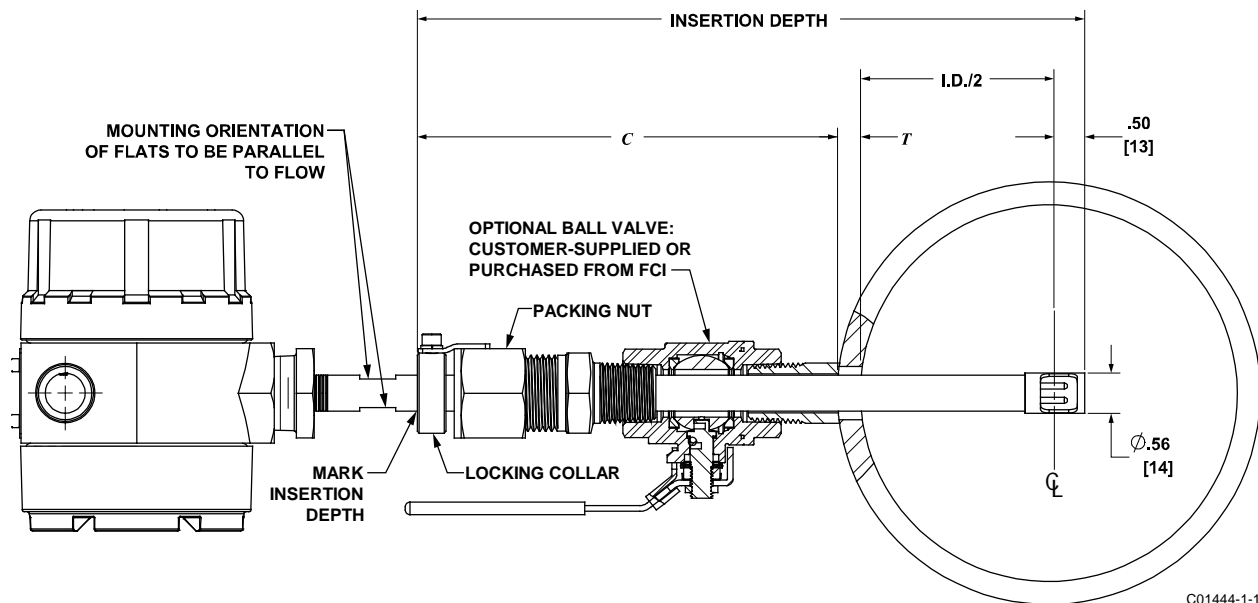

Figure 6 – Flow Element Installation, Retractable Packing Gland ST51A
1. The scale etched on the side of the insertion probe indicates the length to the tip of the flow element. Calculate the Insertion depth using the equation and Figure 6 below.